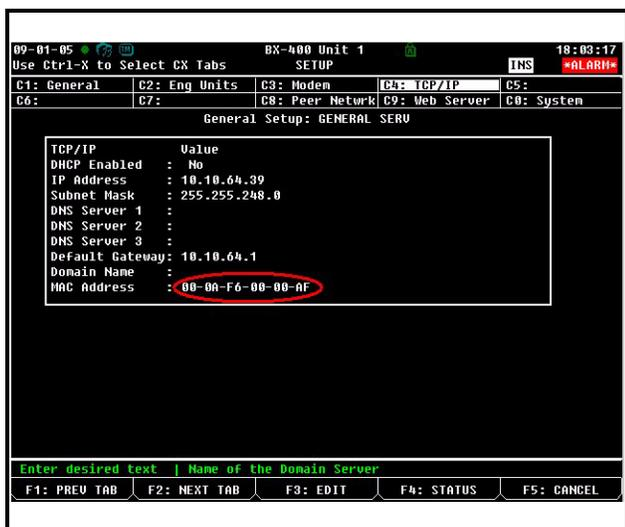

Figure 9-33 - TCP/IP Screen - Locating the Mac Address
3. Press **#3** (TCP/IP Setup) to open the TCP/IP Setup screen and locate your E2's MAC address (circled in **Figure 9-33**):